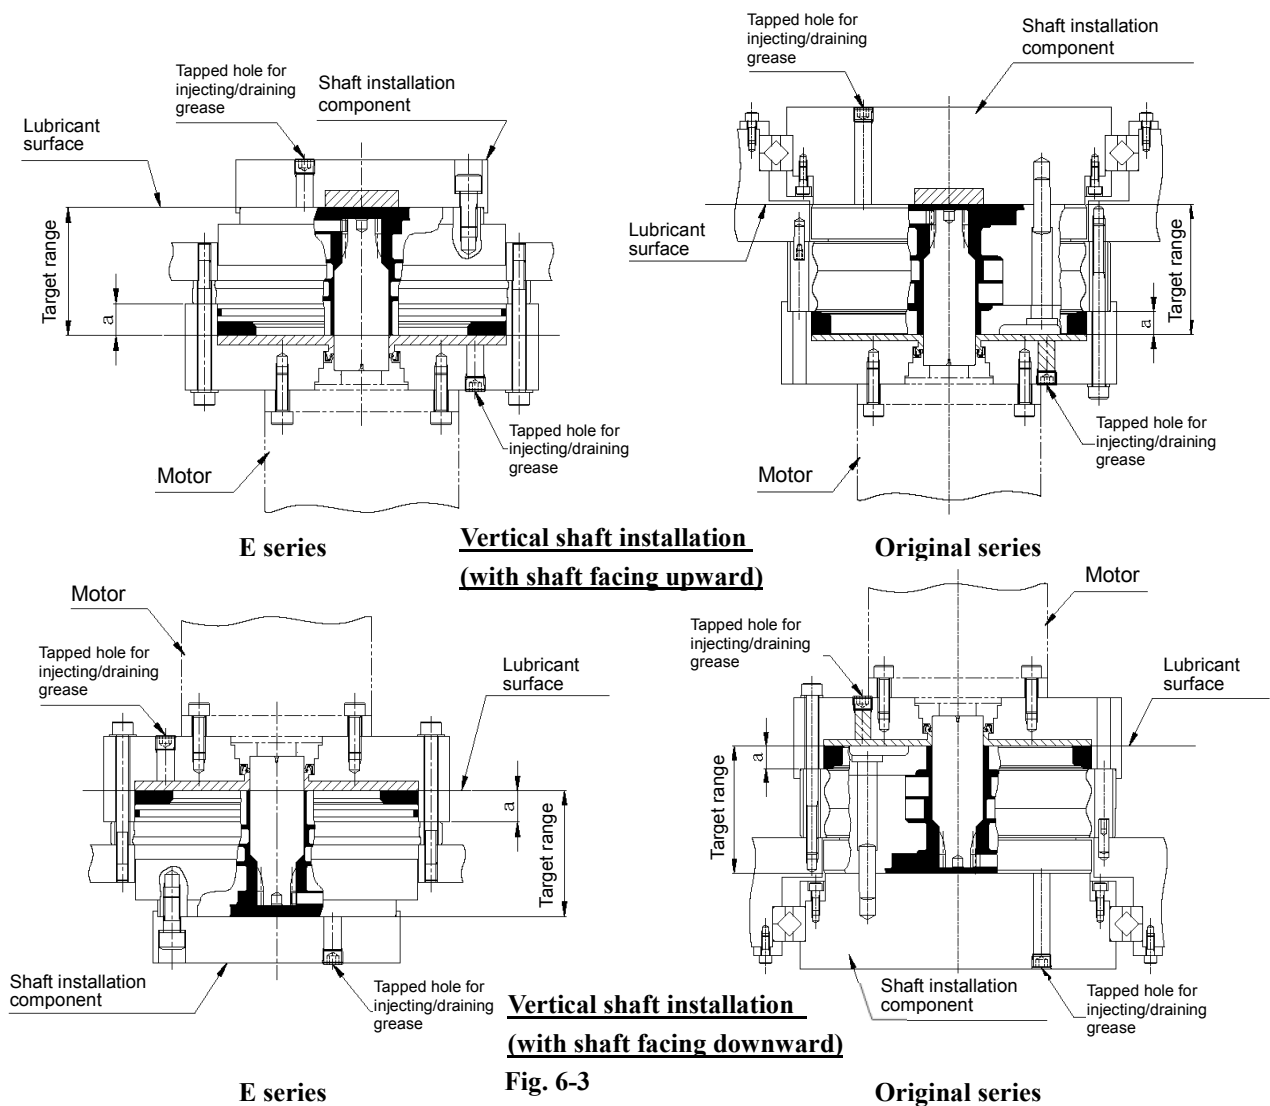

Fig. 6-3
The amount of lubricant the reduction gear requires and the target range (the  areas in the diagram) when the reduction gear is installed in the vertical shaft are indicated in Fig. 6-3. Each amount does not include the space (the  areas in the diagram) on the motor mounting side. Therefore, if there is a blank space, also fill the space. Leave a space about 10% of the total volume of the internal capacity of the reduction gear (the  areas in the diagram) and the space on the motor mounting side (the  areas in the diagram). For the amount of lubricant for the products not included in the catalog, contact our service representative individually.
- The shape of the reduction gear may differ from the illustration in Fig. 6-3 and Fig. 6-4 above, depending on the ordered specifications. For details on the shape, refer to the catalog and the separately provided "Outer dimensions" drawings and specification sheet.